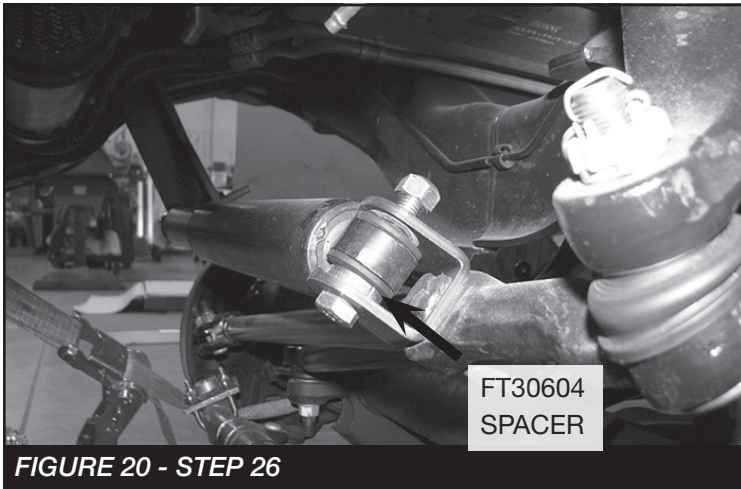

**FIGURE 18 - STEP 24**
24. **(PASSENGER SIDE)** Install FT30659 (Brake line bracket) to the factory brake line tab using the supplied 3/8" hardware (Use lower hole). Next, using the supplied rubber clamp and 1/4" hardware, attach the ABS line to the upper hole on the FT30659 bracket. Re attach to the frame using the factory hardware. Torque 3/8" & factory hardware to 52 ft-lbs. Torque 1/4" hardware to 14 ft-lbs. **SEE FIGURE 18**